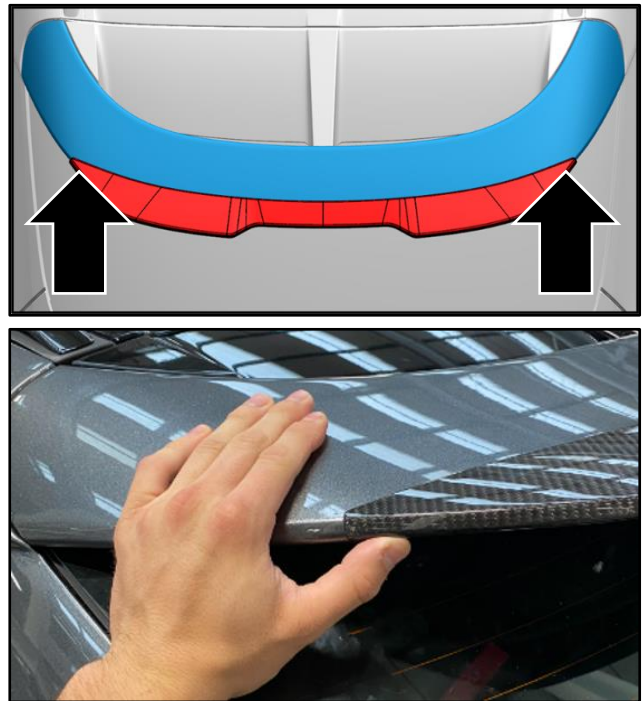

Figure 4
- Use your thumbs to apply 2 kg of upwards force to the areas shown. Do the test on the opposite side of the spoiler flip (refer to Figure 4).